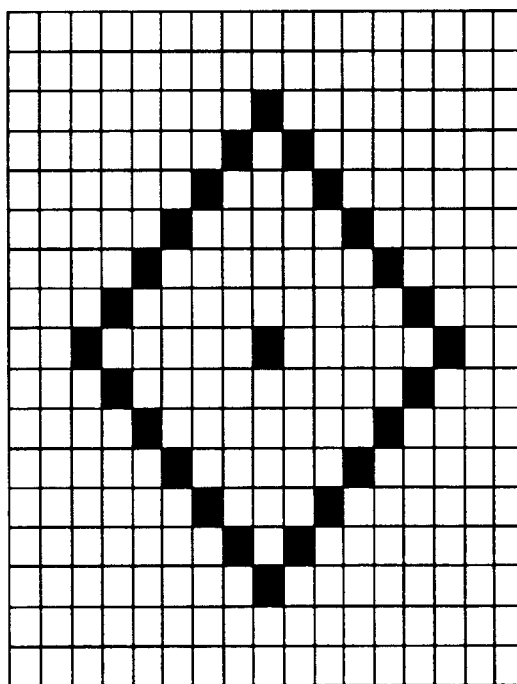

Figure 3-15 Display for changing shape of mark number 1
- 2) Enter mark number you want to change. For example, press **1** to change the shape of the triangle mark. Your display should look like Figure 3-15.